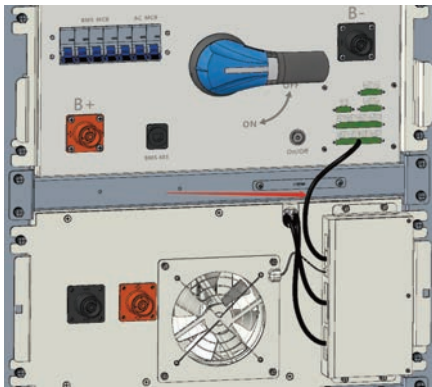

Figure 2.6
(2) Connect the main control box BMU communication port with the first battery box BMU communication input port (Figure 2.6).